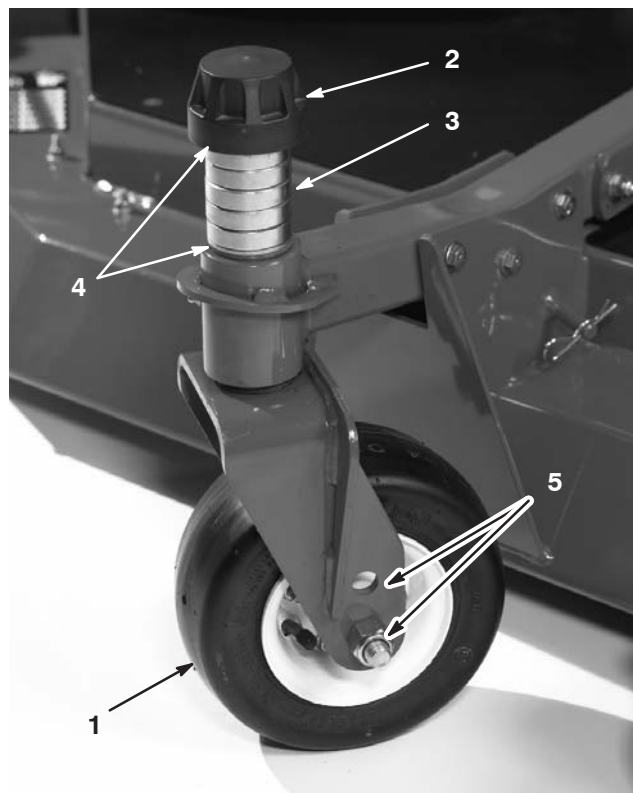

Figure 84
1. Remove the tensioning cap from the spindle shaft and slide the spindle out of the castor arm (Fig. 84). Reposition the shims, as required, to raise or lower the castor wheel until the cutting unit has the correct pitch.